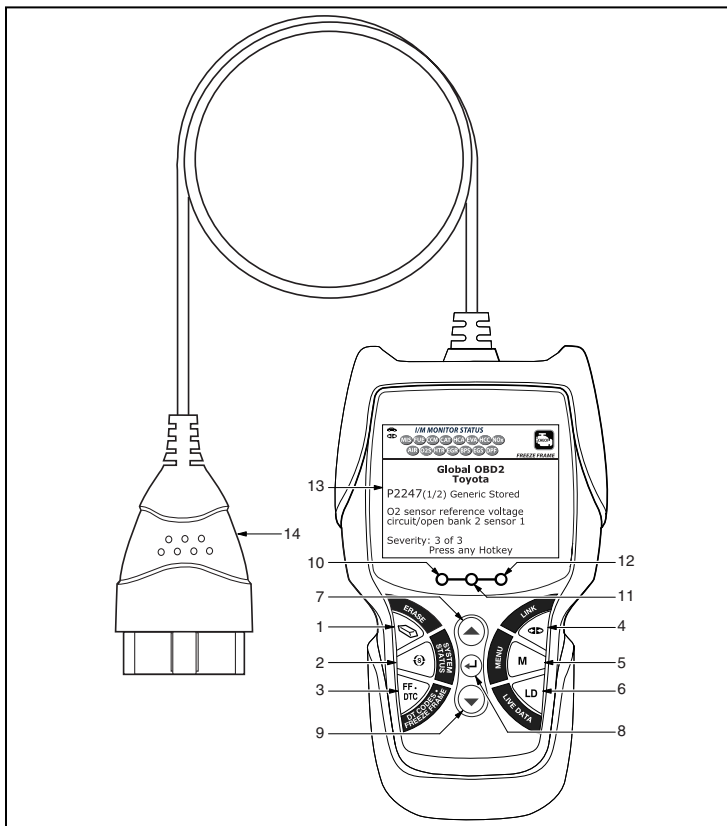

Figure 1. Controls and Indicators
See Figure 1 for the locations of items 1 through 14, below.